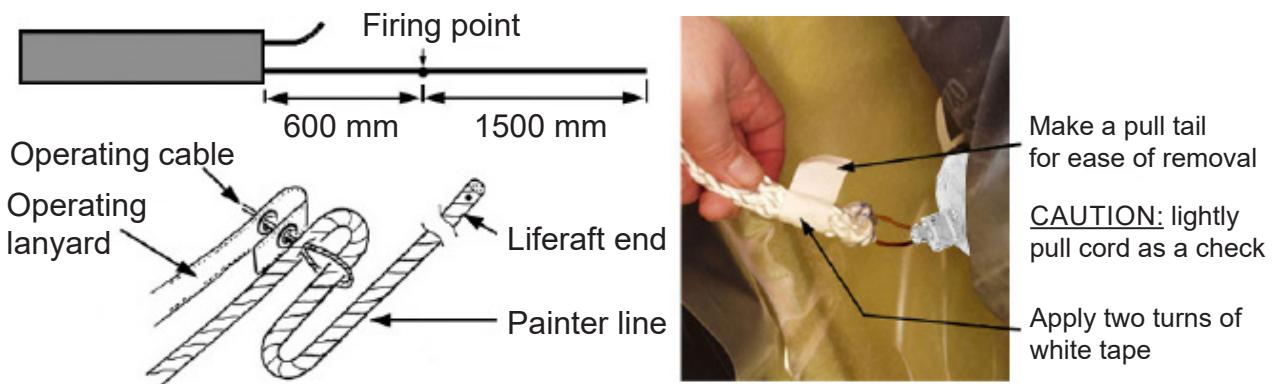

FIGURE 828
- 5.28 Put both eyelets of the operating lanyard onto the operating actuator cable. Refer to FIGURE 828.
- 5.29 Make sure that 2.1 m (83") exits the painter sachet. Pull the 1.5 m (60") end of the painter line taut. Put a 300 mm (12") length of layflat tubing over the painter line. Refer to FIGURE 828.
- 5.30 At the firing point (1.5 m (59") from the end of the line) pass the actuator cable of the operating mechanism through the painter line. Thread the remaining painter line back through the actuator cable. Refer to FIGURE 828.
- 5.31 Make sure that the painter cord is firmly attached to the operating head by lightly pulling on the painter cord. Refer to FIGURE 828.
- 5.31.1 Apply two turns of white tape around the painter cord. Refer to FIGURE 828. Fold the end of the tape over on itself to create a pull tail. This will make it easier to remove the tape at the next service.